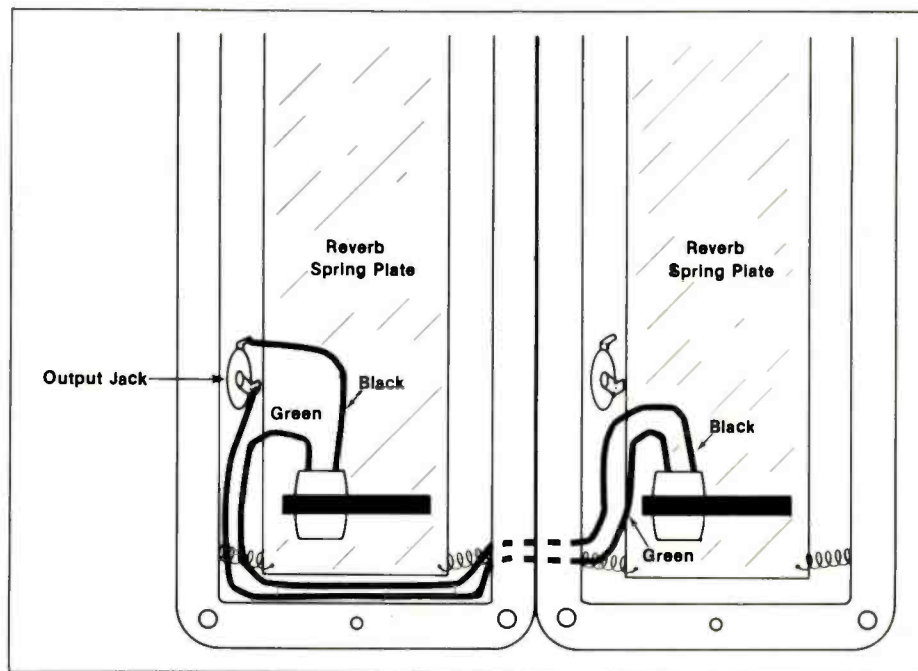

Figure 7
*Figure 7* shows a detail of the modified output jack wiring. In this case, disconnect the green wire from the left transducer and the black and green wires from the right transducer from their associated phono jacks. Connect the green wire from the left transducer to a short length of thin gauge insulated wire, and run this into the right reverb case through the case holes (like the ones mentioned above). This wire should then connect to the black wire from the right transducer. Finally, the green wire from the right transducer should connect to a wire that again runs through the two holes used for routing the last wire, and ends up connecting to the "hot" terminal of the output jack mounted on the left reverb unit. Look carefully at *Figure 7*